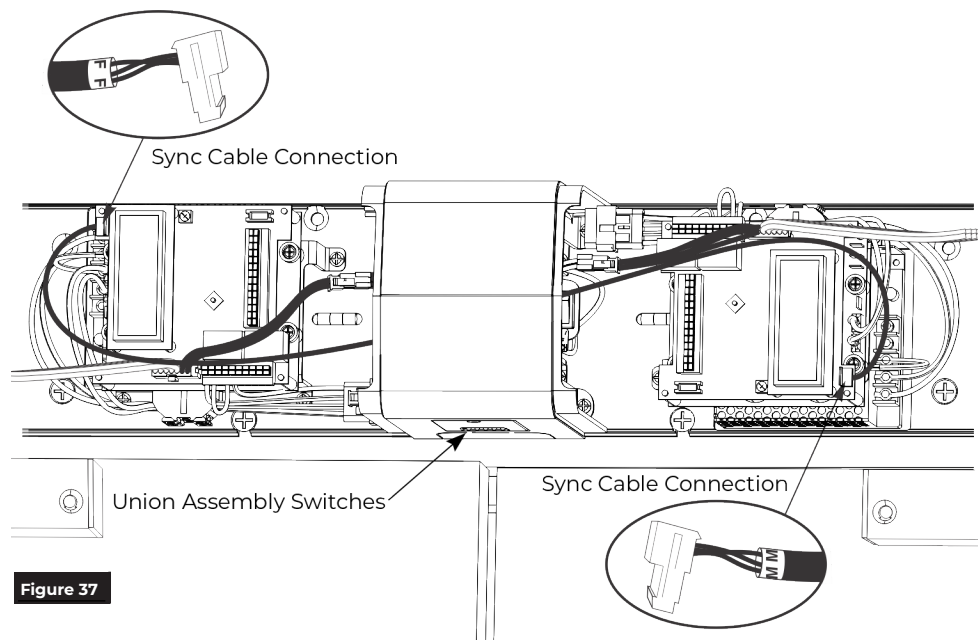

Figure 37
2. Run Sync Cable between operators. (Figure 37)
5. Place both selector mode switches of union assembly in ‘ON’ position for activation by push plate, RF button, or other activation devices. Place switches in ‘H/O’ for continuous hold open. (Figure 37)